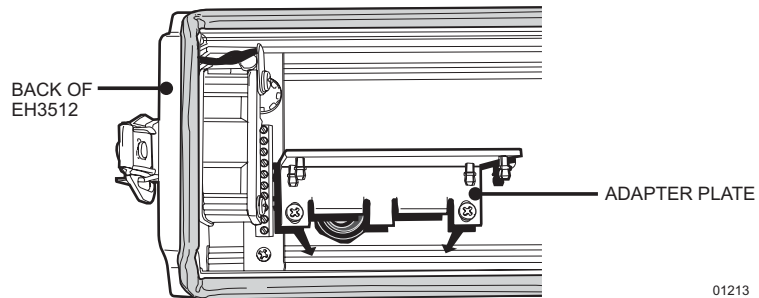

Figure 5. Installing the EH3512 Adapter
4. Refer to Figure 5. Install the EH3512 adapter into the enclosure.